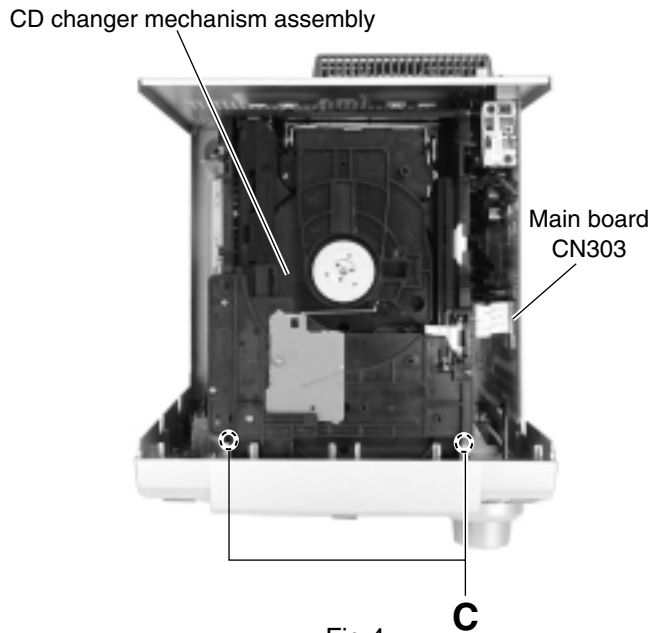

Fig.4
■ Removing the CD changer mechanism assembly (See Fig.4 to 7)